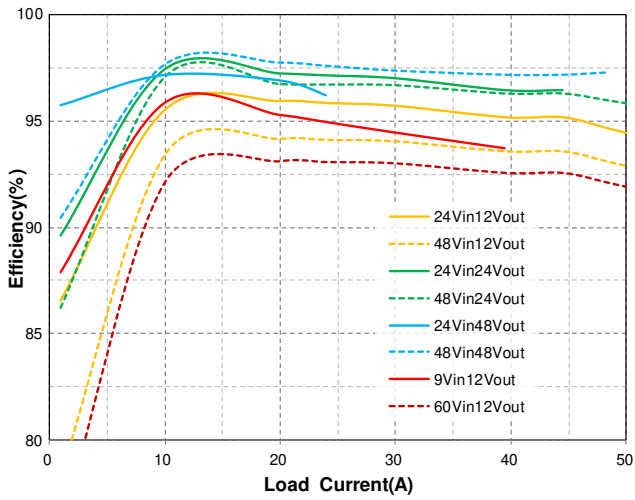

Figure 1: Efficiency vs. Load Current at Ta=25°C
1) Vset pin (9) is the default output voltage setting Pin. It can be disabled and set output voltage by PMBus. Refer to PMBus commands specifically.
2) H60SB0A050NRDE efficiency is 1.3% less than the H60SB0A050 other series when V o close to V in . They are equally efficiency when V o not close to V in . H60SB0A050 other series efficiency refer to the Figure 1 of P4.